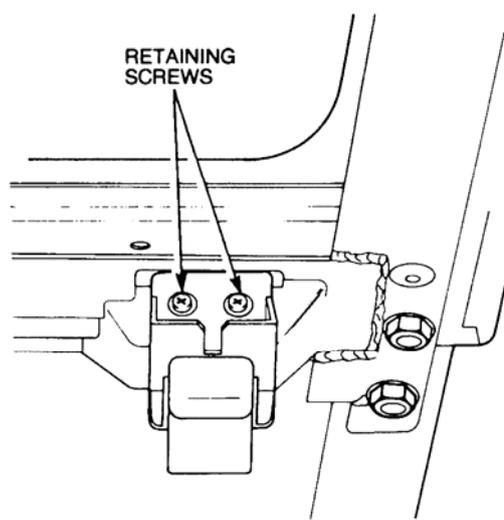

Figure 31 Interior Door Lock Button Removal
- aaa. Remove the screws and washers securing the interior door lock button to the door frame (refer Figure 31).
- a. Install the interior door lock button and secure with the screws and washers (refer Figure 31).